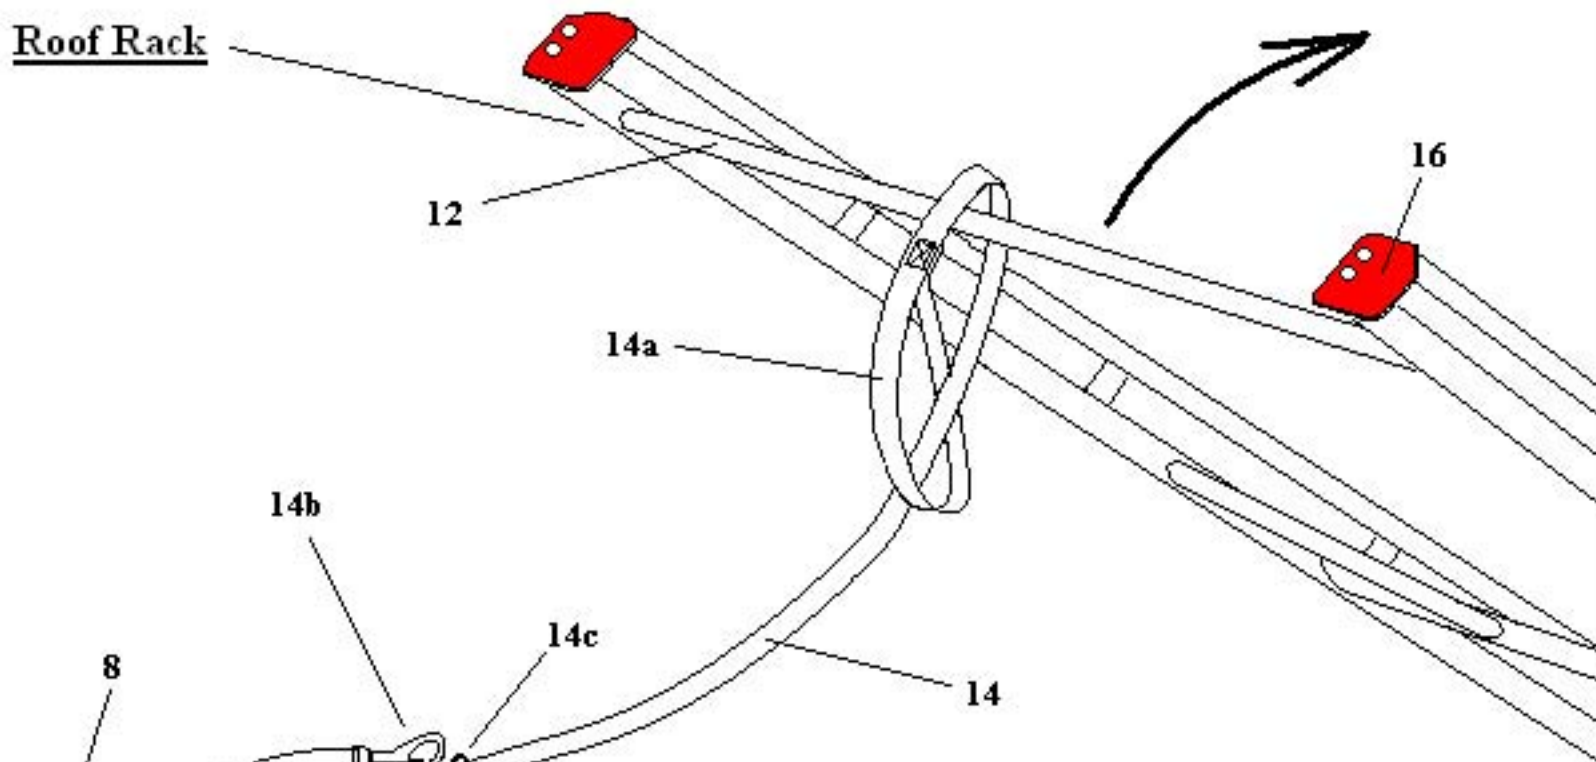
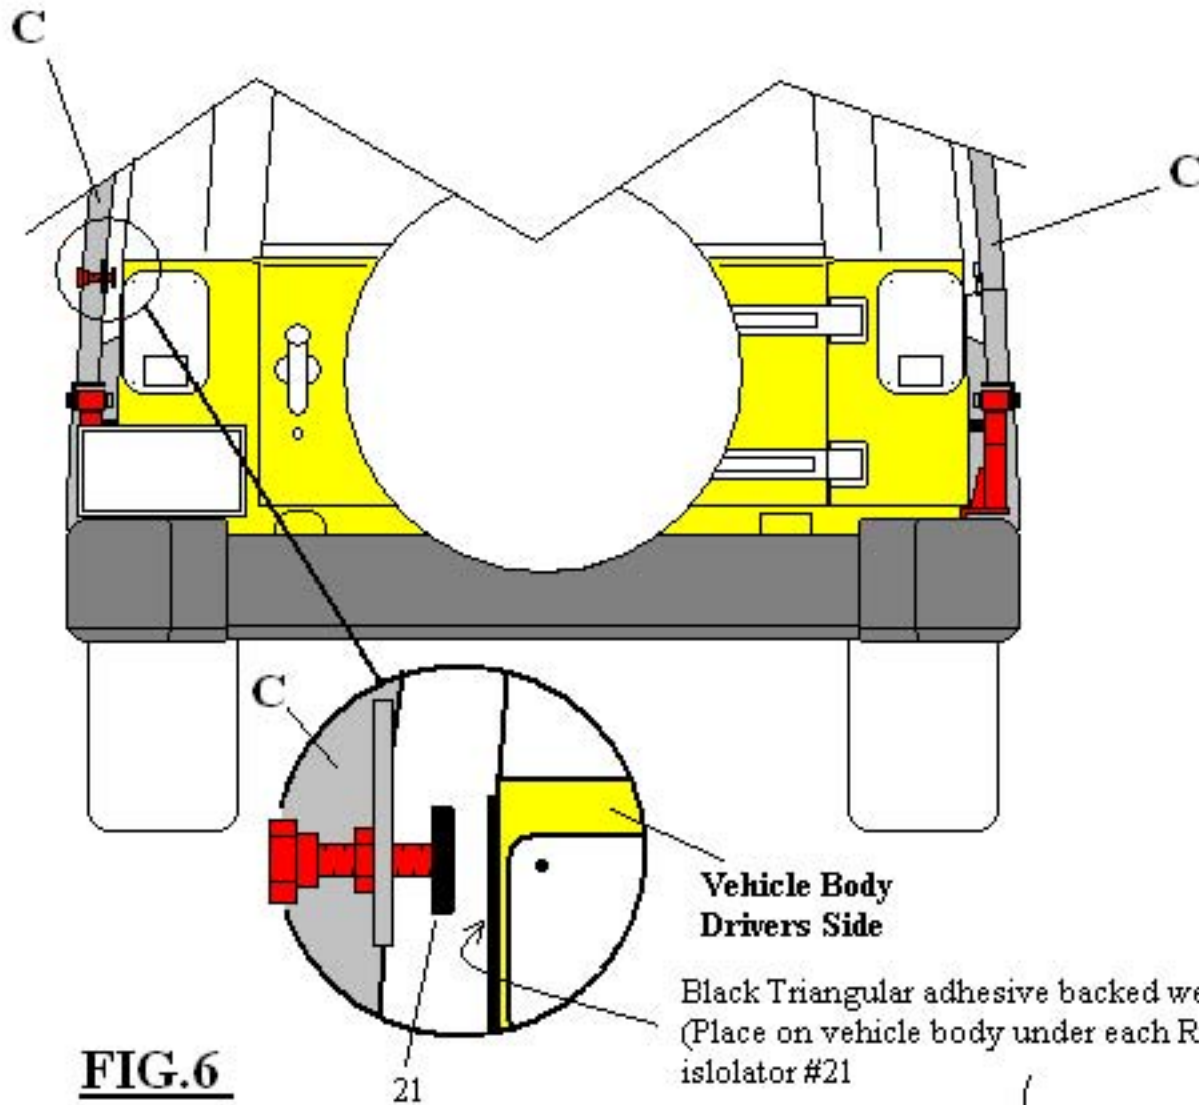
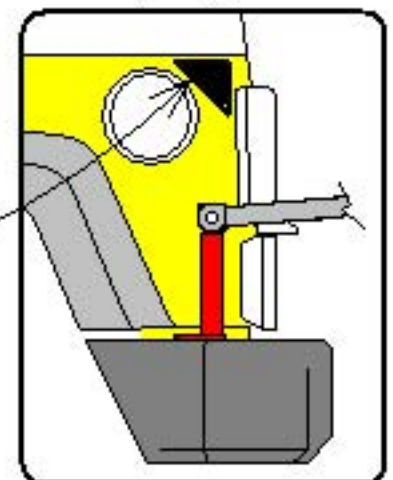

FIG. 4
FIG. 6
FIG. 7
- 3- Prior to attaching your "Quick Release" with the roof rack still bolted to your light bar remove any cargo you may have on your roof rack then Refer to page 6 Fig 4 and attach Safety Tether (14) supplied with your kit handle end (14a) first to roof rack cross bar (12) as shown. Continue by wrapping the opposite end of the Safety Tether (14b) twice around the light bar as shown then connecting hook end (14b) to "D" ring (14c) pull both ends taut around tubing.
- 4- Refer to page 7 Fig. 6 and fully loosen anti-sway rubber tipped adjustable bolts (21) completely away from vehicle side body both driver and passenger sides. *Note: Make certain you retain the triangular wear plates under each adjustable anti sway rubber tipped bolt when attaching your "Quick Release" as this will prevent body wear from occurring during the loosening and tightening of the adjustable bolt shown on page 7 Fig 6 and Fig.7.* Place a rag or towel on the roof top of your vehicle below the roof rack plates (16) shown on page 6 Fig. 4. This will prevent any damage to your roof top as you remove the bolts holding the roof rack to the light bar as the roof rack will be resting on the roof top. Take caution and release the roof rack gently onto the roof top of your vehicle. Swing your vehicle spare tire carrier in the open position then gently pull back your roof rack grabbing onto the larger roof rack lower tubing pull back roof rack completely and rest rear end of roof rack onto the top of your spare tire. The "Quick Release" safety tether may be slack at this time.
- 13- Refer to page 7 Fig 6 tighten both driver and passenger side anti-sway isolator bolts back in place against the triangular wear plates. While tightening pull out slightly on the rear support bar "C" to cause a good tight grip of the rubber tipped isolator bolt onto the wear plates this will prevent the need to use tools to tighten the 5/16" jam nut, Installation Complete. Remove safety tether (14) page 6 Fig. 4 from roof rack and light bar then fold up and stow in glove box for use at a later date. Your roof rack "Quick Release" can now be used tool free to pull back as often as needed the roof rack for Soft top retraction.